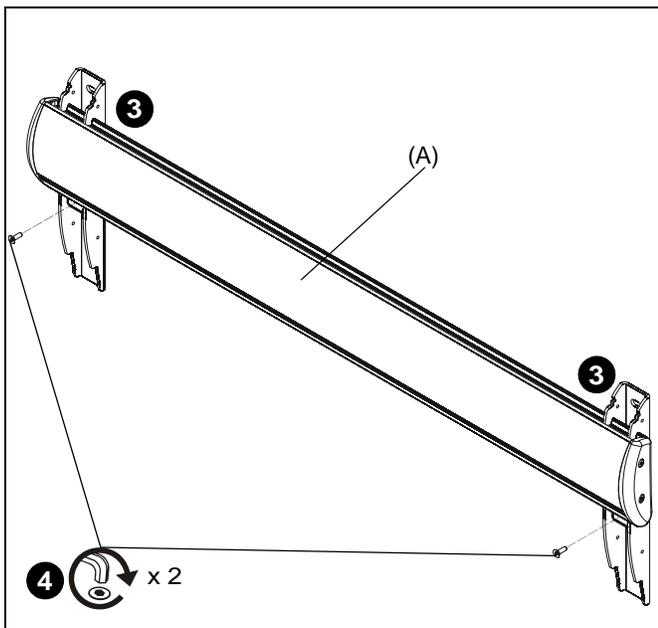

Figure 2
3. Place vertical mounting brackets on MWAL24 accessory equally apart from each other as the width of the studs on the wall which the mount will be installed. (See Figure 2)
4. Reinstall two screws removed in Step 2 to secure vertical brackets to WMAL24. (See Figure 2)